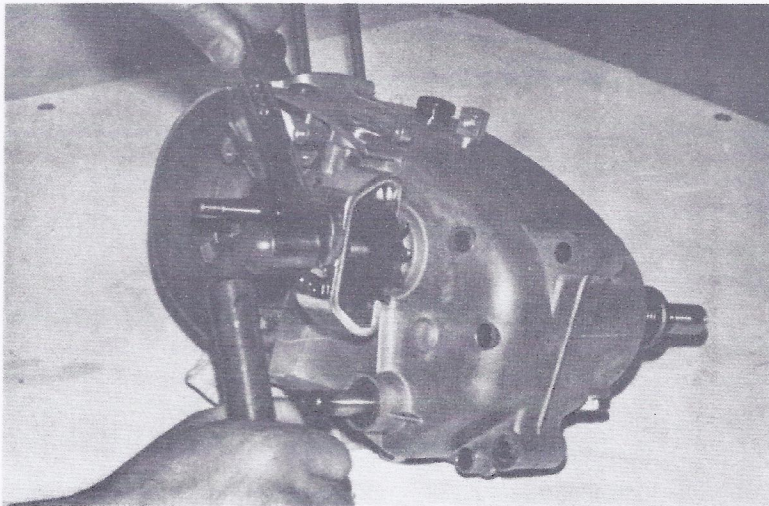

FIGURE 5 - How to remove the counter-shaft sprocket, using the extractor tool U2-3.
- 10) Using the sprocket extractor U2-3, remove the counter-shaft sprocket (see figure 5).